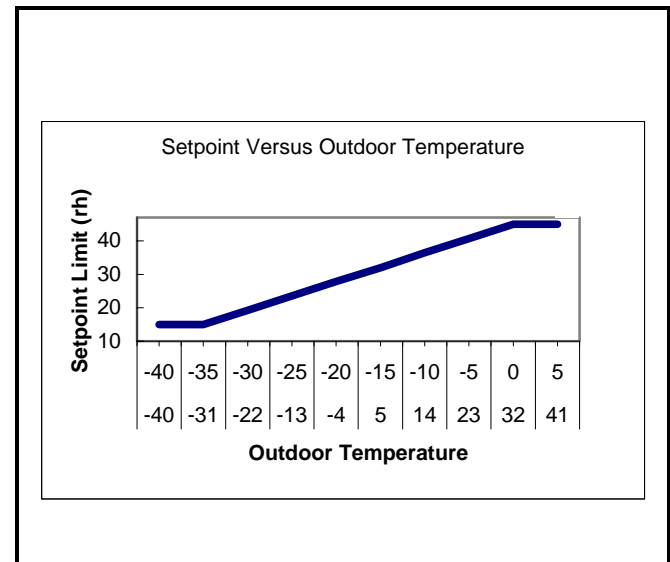

Figure 2. Outdoor Temperature Setback
- B. Each humidistat is equipped with an integrated reset function that will lower the setpoint during cold weather operation. This will prevent condensation on windows and building structures. Figure 2 illustrates how the setpoint reset feature operates.